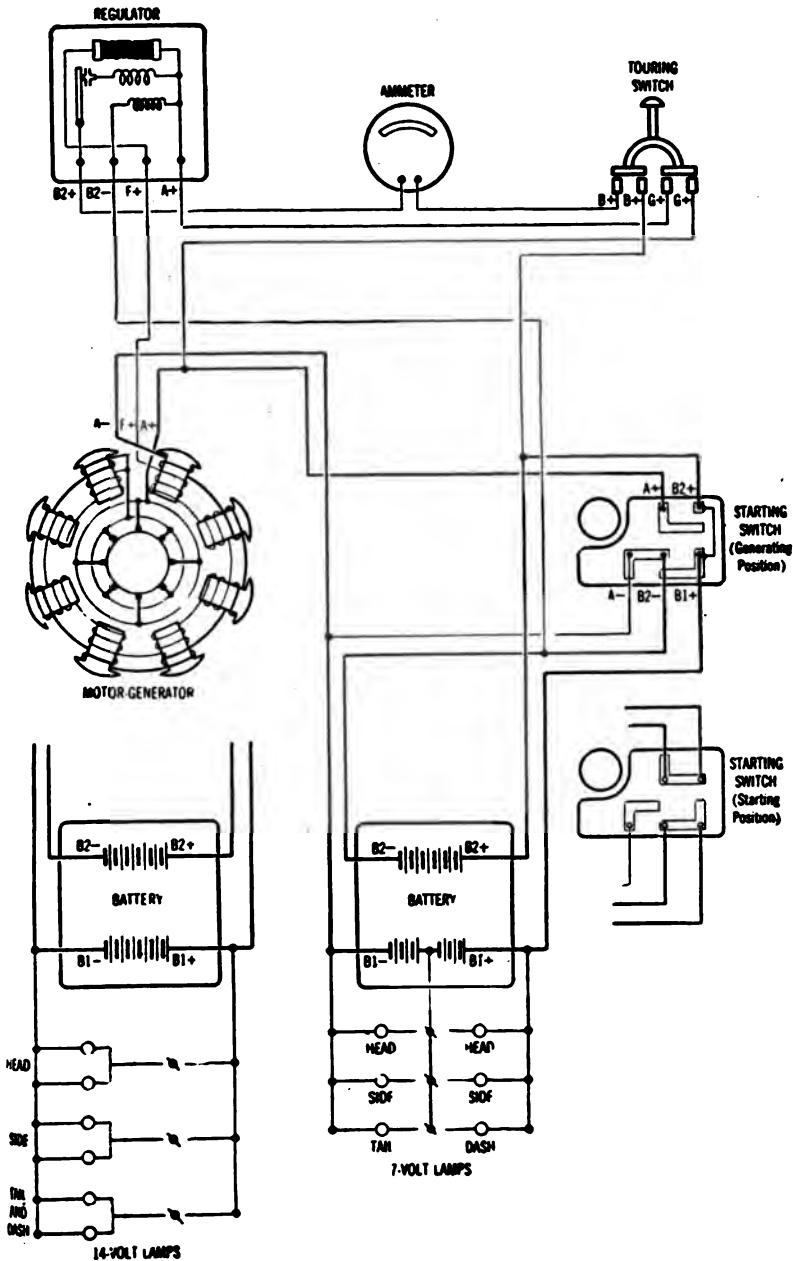

Fig. 333. Wiring Diagram for 24—12-Volt External Regulator Type, U.S.L. System
**Wiring Diagrams.** Figs. 333, 334, and 335 show the standard wiring diagrams of the three types mentioned, being, respectively, the 24—12-volt externally regulated type, the 12—6-volt external regulator and internal-armature type, and the 24—12-volt inherently regulated type. In the diagram proper of each of the 24—12-volt types is indicated the layout for using 7-volt lamps, while the extra diagram at the side shows the method of connecting for 14-volt lamps. The "touring switch" shown on the first two diagrams is a hand-operated switch in the charging circuit and is designed to prevent overcharging of the battery when on long day runs. The inherently regulated type requires very little field current, and on most of these the touring switch is of the miniature push-button type, like a lighting switch.